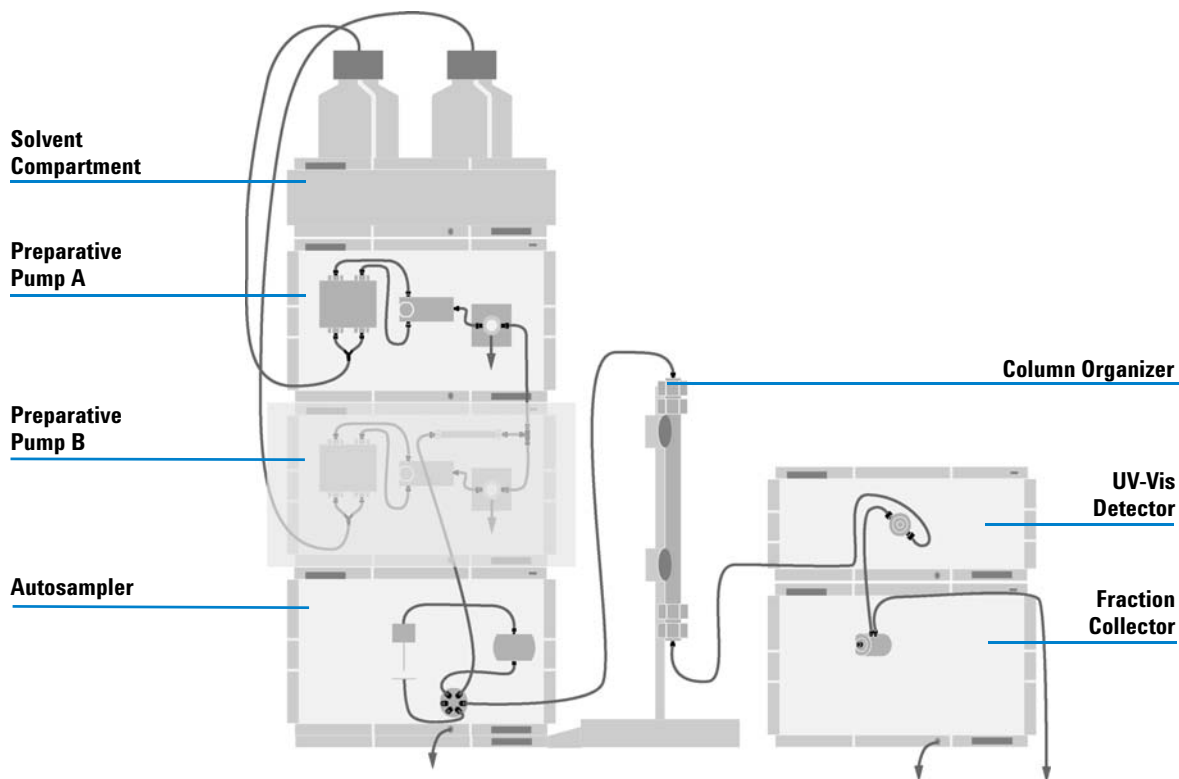
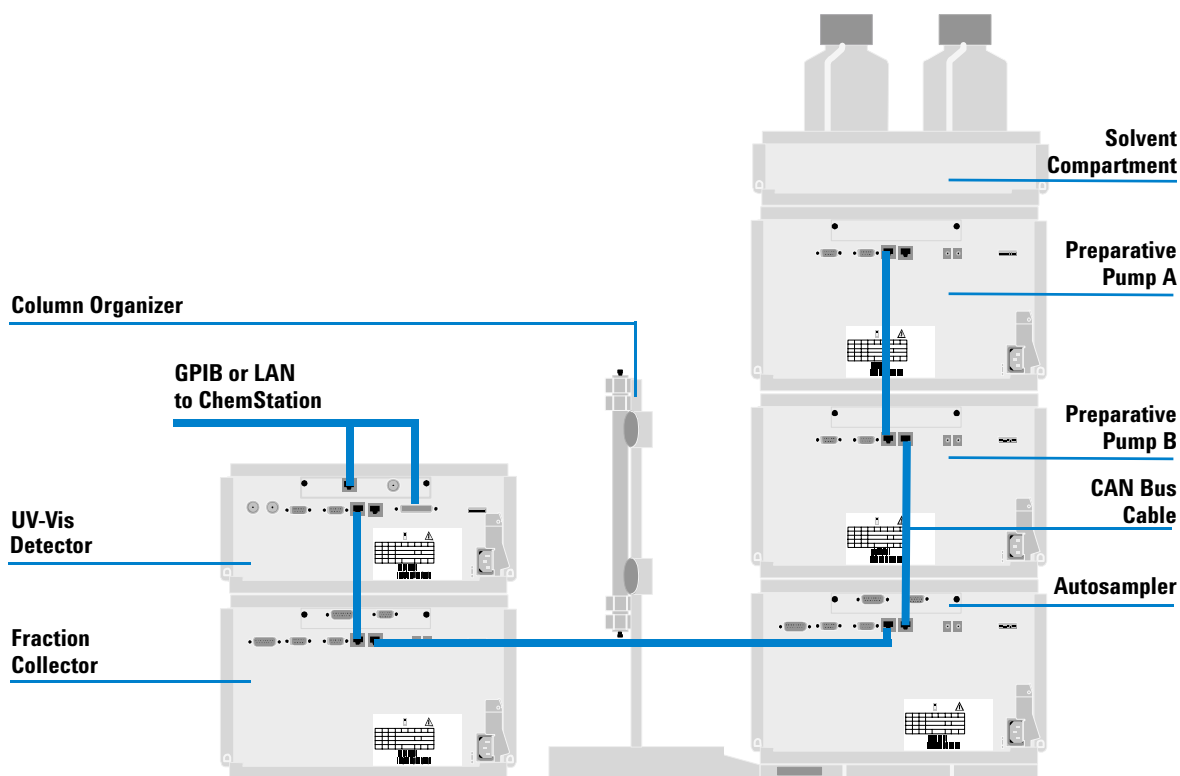

Figure 3 Recommended Stack Configuration - Fraction Collector in a Preparative System (Front View)
Figure 4 Recommended Stack Configuration - Fraction Collector in a Preparative System (Rear View)
- Figure 3 on page 20 and Figure 4 on page 21 show the configuration recommended for the Fraction Collector with a preparative scale system.